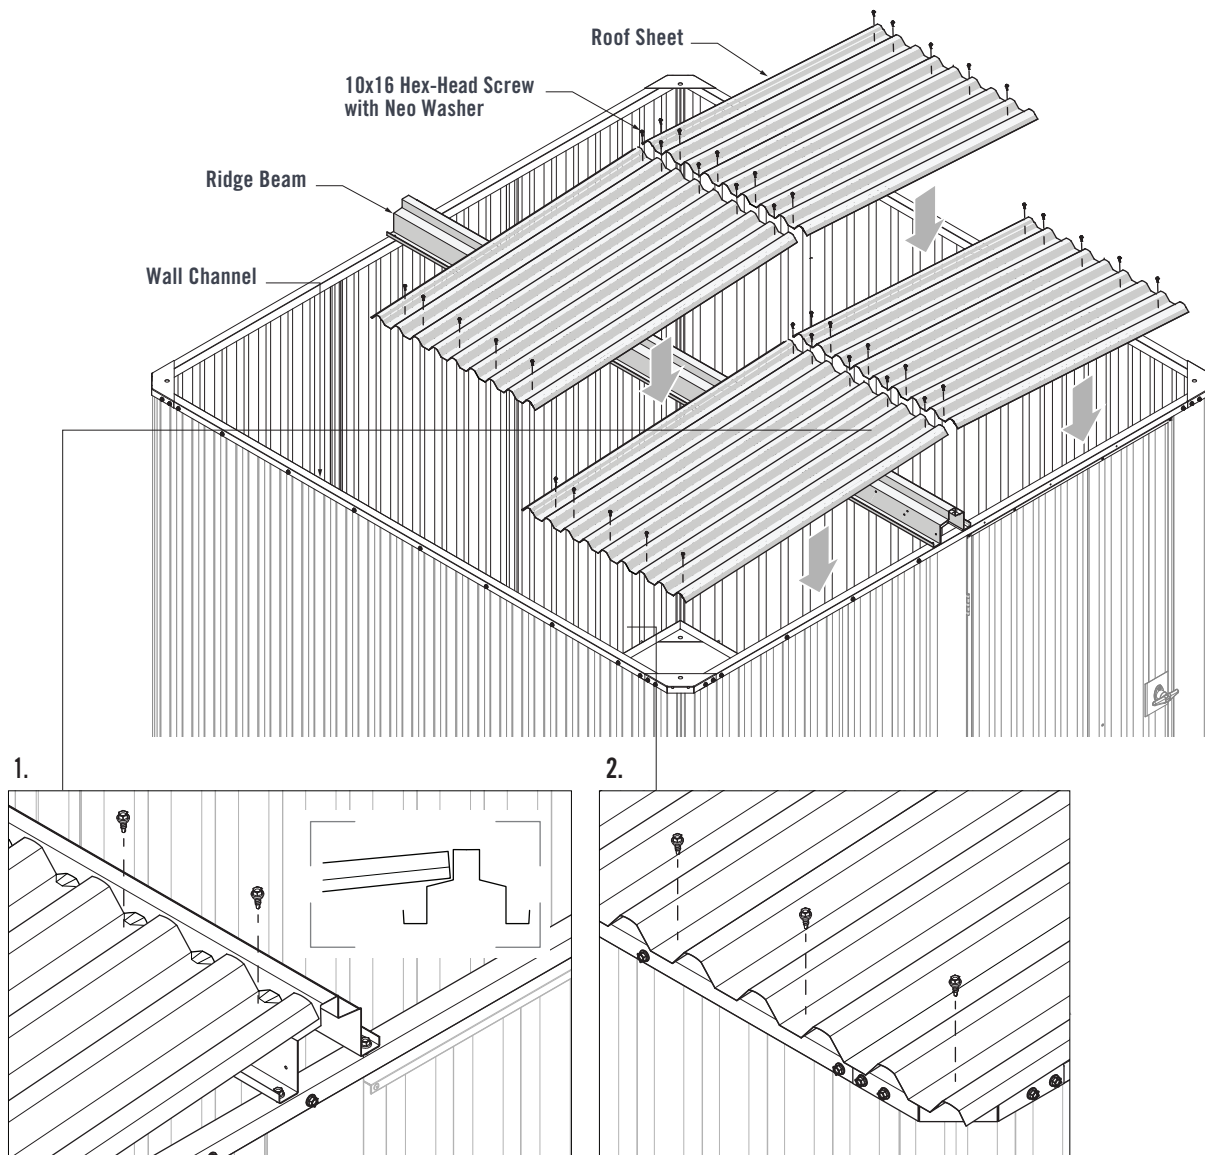

FIGURE 5.4
Lay a Roof Sheets onto the Ridge Beam and Wall Channel, ensuring the overlap end of the Roof Sheet is facing the front of the shed (Figure 5.4).
1. Ensure the end of the Roof Sheet is in-line with the end of the Ridge Beam. Fasten five 10x16 Hex-Head Screws with Neo Washers through the pans of the Roof Sheet and into the Ridge Beam (Figure 5.4).
2. Fasten five 10x16 Hex-Head Screws with Neo Washers through the pans of the Roof Sheet and into the Wall Channel (Figure 5.4).